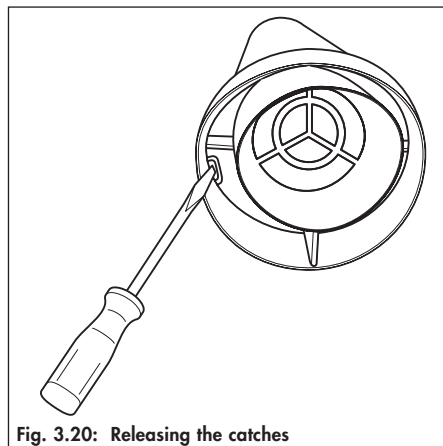

Fig. 3.20: Releasing the catches
- Use an 8 mm screwdriver to bend the catches inwards (fig. 3.20).